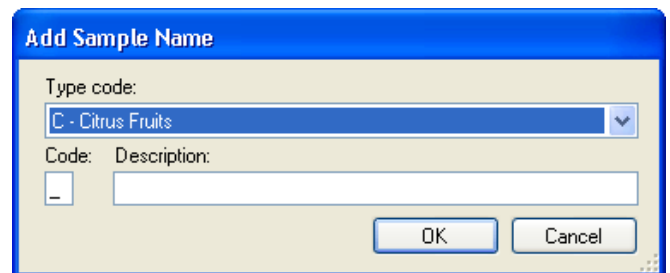

Figure 20. Select a Sample Type and Append a New Sample Name (Subcategory).
- **Sample Names** (Fig. 20) requires you to select a Sample Type code, then enter a 1-letter “sub-class” code. For example, for the sample type C - Citrus fruits, you might wish to define Sample Names for specific types of citrus fruit (e.g., L for lemons).